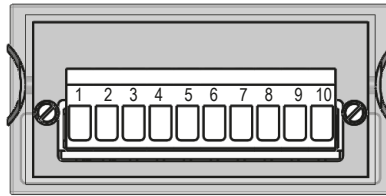

Fig. 2: Connection
- 10 pin coupler strip (see Fig. 2).